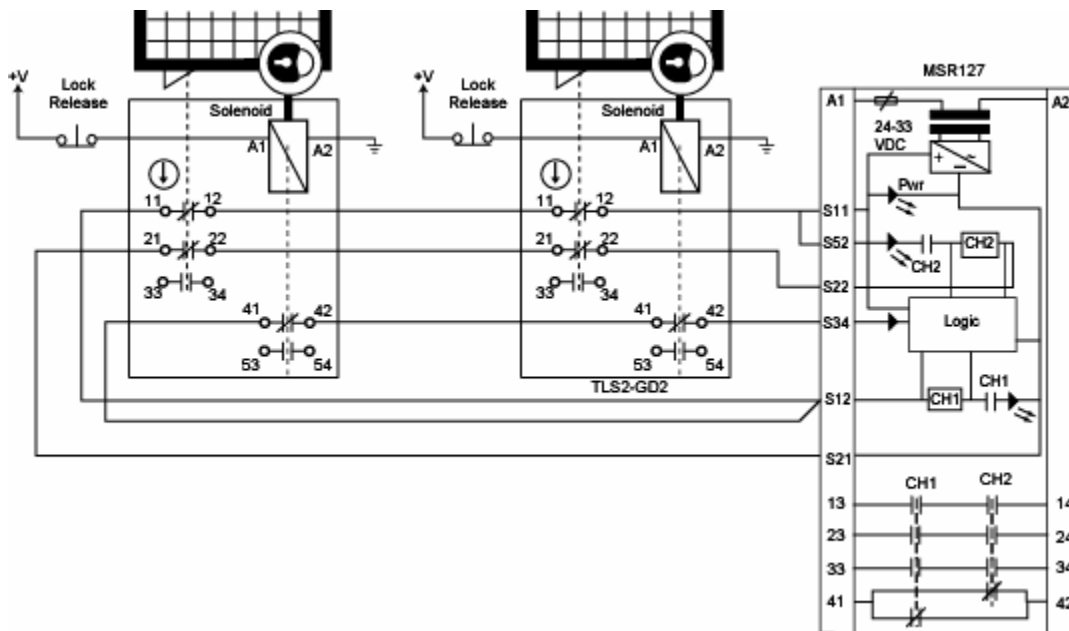

Figure 13. Multiple TLS2-GD2's
- h. Lock Release Button - When connecting multiple TLS2-GD2's, a pushbutton is recommended at each gate. Gates often become misaligned due to wear, damage or misfits. Sometimes, this causes a gate to be slightly open. If all the solenoids are de-energized at the same time, then one or more gates may open slightly when the power is restored. If wired per Figure 13, then the safety relay will be satisfied but the monitoring loop will remain open. There will be no indication as to which gate is open. With a pushbutton at each gate, the gate will remain locked unless access is made by pressing the button.
- j. The input circuit arrangement shown in Figures 13 meets the requirements of EN954-1 Category 3.